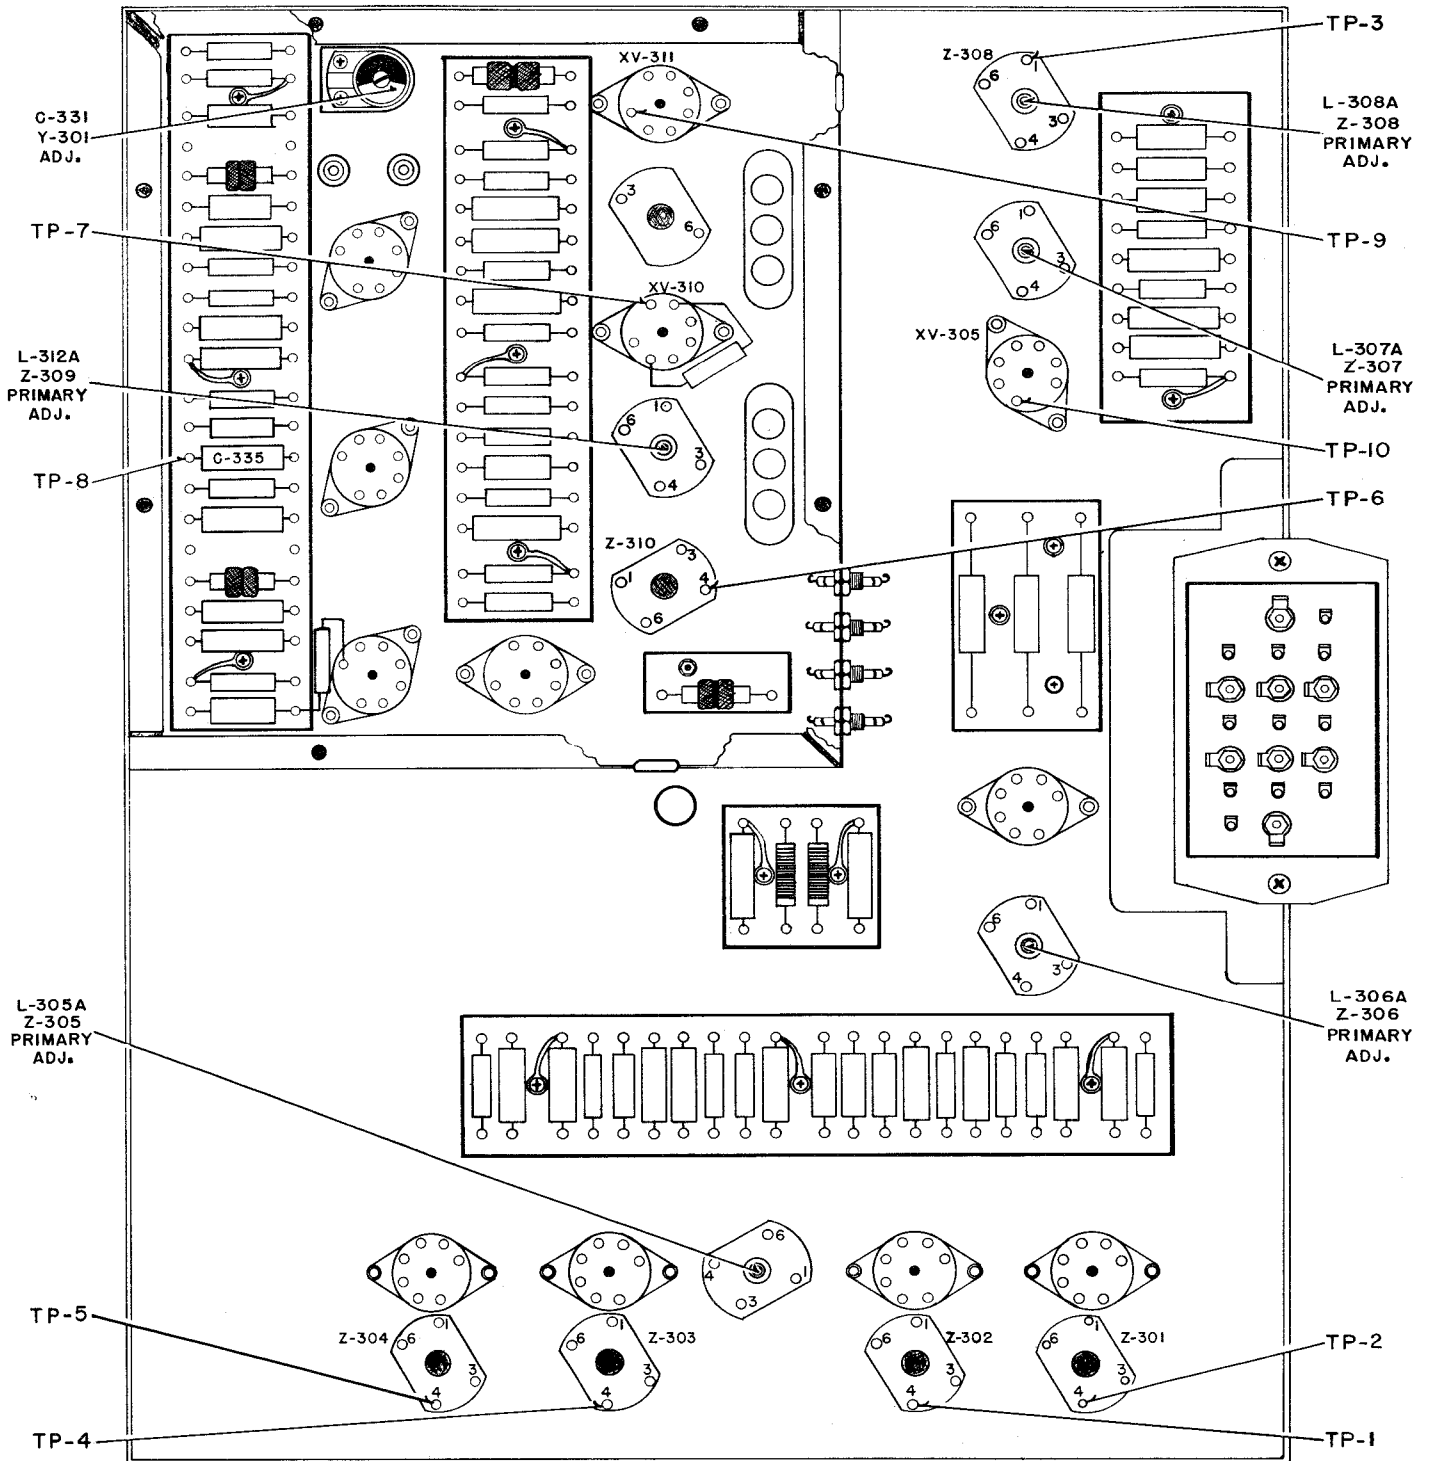

Figure 7-54. Alignment Adjustment and Test Point Locations Bottom of Chassis, Frequency-Converter CV-126/FRR-24
Step 2. Before proceeding further it will be necessary to calibrate the 2nd. I.F. Level meter. This is done by connecting signal generator AN/URM-25, in accordance with Method C, Par. 6. a. to terminal 4 of Z-302 (TP-1, see Figure 7-54) located on the Frequency Converter CV-126/FRR-24. The procedure is as follows:
Step 2. Connect signal generator AN/URM-25 tuned to an R.F. frequency of 1750 kc. between terminal 4 of Z-301 (TP-2, see Figure 7-54) and chassis in accordance with Method C, Par. 6. a.
Step 3. Remove the cover of the oscillator compartment bottom of chassis and connect multimeter ME-6/U between the cathode (pin 7) of V-311 (TP-9, see Figure 7-54) and the chassis. Set the voltmeter on the 1-volt scale.
Step 5. Change the signal generator connection to terminal 4 of Z-302 (TP-1, see Figure 7-54).
Step 7. Change the signal generator connection to terminal 4 of Z-303 (TP-4, see Figure 7-54).
to terminal 4 of Z-304 (TP-5, see Figure 7-54).
Step 1. Connect the electronic voltmeter (Model OBQ or ME-25/U) between the grid (pin no. 1) of the second converter tube V-310 (TP-7, see Figure 7-54) and chassis. Set the voltmeter on the 10-volt D.C. scale.
Step 3. Remove the voltmeter from the grid of the second converter V-310. Connect the multimeter ME-6/U between terminal 4 of Z-310 (TP-6, see Figure 7-54) and chassis.
(3) 50 KC. I.F. DETECTOR AND DISCRIMINATOR ALIGNMENT.
Step 1. Connect multimeter ME-6/U between the cathode (pin 7) of V-311 (TP-9, see Figure 7-54) and chassis. Connect the signal generator tuned to an R.F. frequency of 1750 kc. between terminal 1 of Z-308 (TP-3, see Figure 7-54) and chassis, in accordance with Method B, Par. 6. a. Set the multimeter on the 1-volt scale.